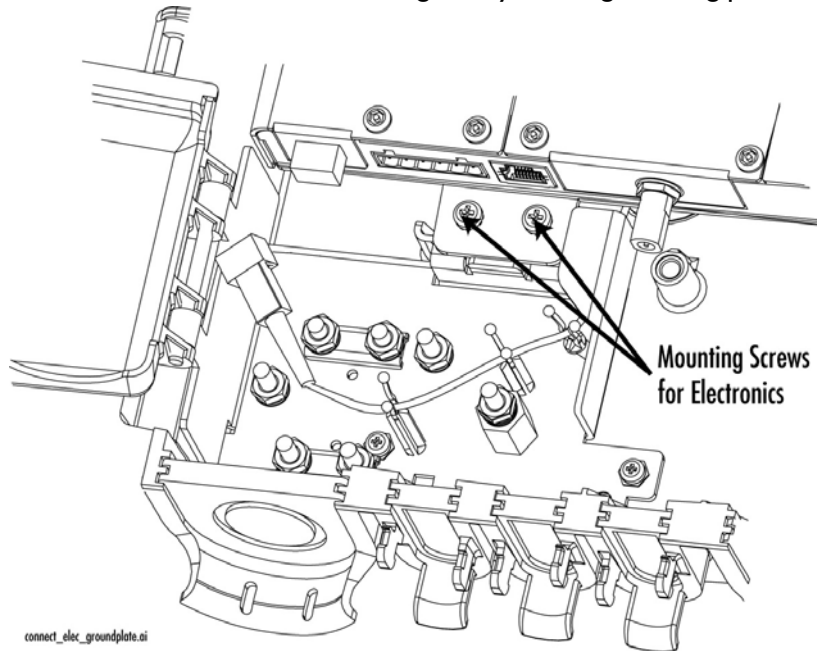

Figure 6. Mounting the Gateway
- Use two of the #8-32 SEMS screws to secure the gateway to the grounding plate as shown in Figure 6.